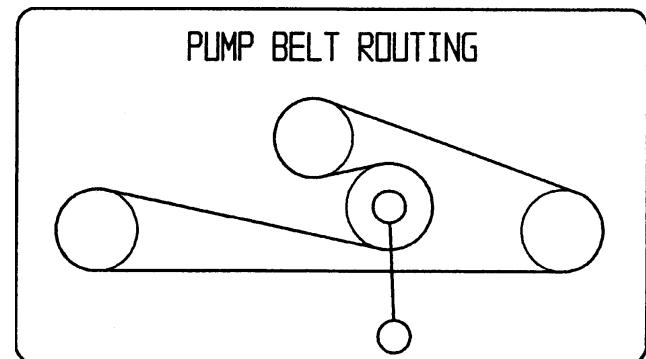

**Figure 43**
- Tighten nut and bolt. Test lever to your desired tension (Fig. 43).